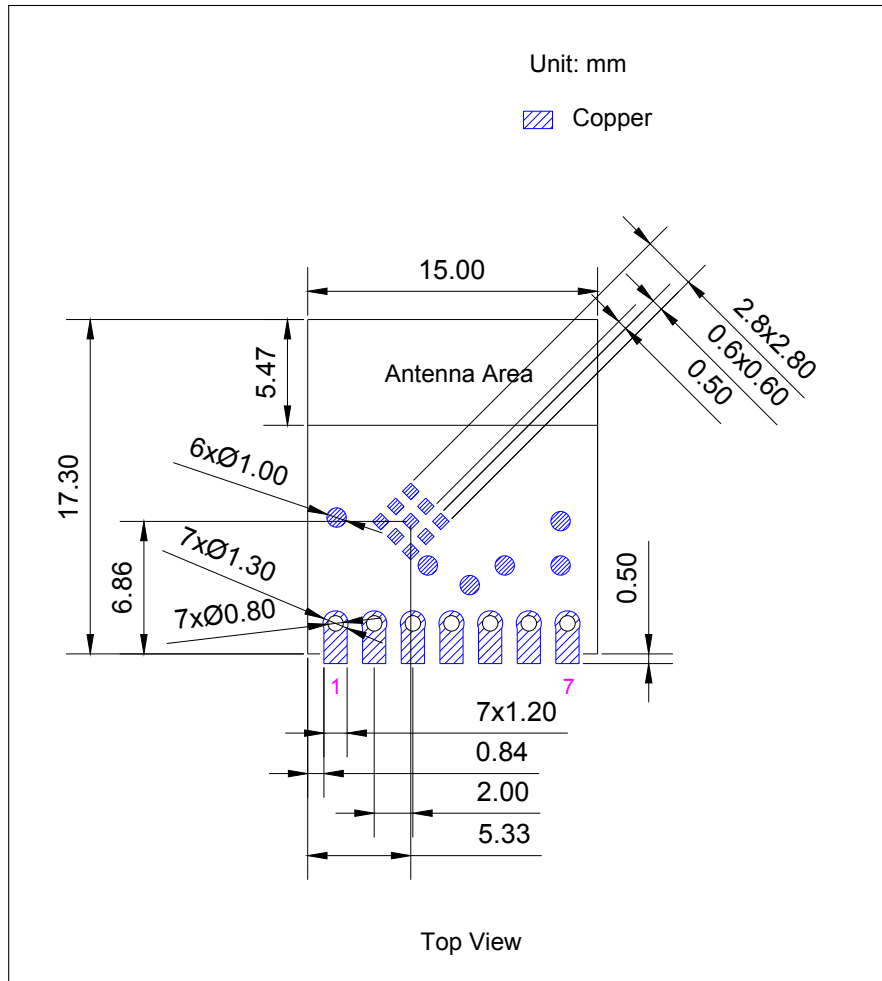

Figure 7: Recommended PCB Land Pattern
- Figure for the recommended PCB land pattern with all the dimensions needed for PCB design. See Figure 7 Recommended PCB Land Pattern.
- Source file of the recommended PCB land pattern to measure dimensions not covered in Figure 7. You can view the source files for ESP8685-WROOM-05 with Autodesk Viewer.